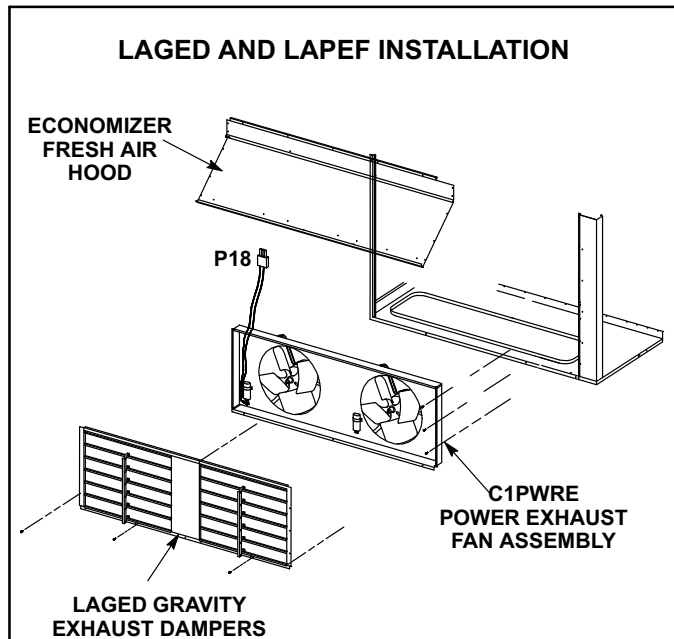

FIGURE 31
LAGED18/24 dampers (figure 31) available for TGA180/300 units, are used in downflow and LAGED(H)18/24 are used in horizontal air discharge applications. LAGED(H) gravity exhaust dampers are installed in the return air plenum. The dampers must be used any time an economizer or power exhaust fans are applied to TGA series units.
C1PWRE20C available for TGA180/300 units are power exhaust fans used in downflow applications only. The fans require optional down-flow gravity exhaust dampers and T1ECON economizers. Power exhaust fans provide exhaust air pressure relief and also run when return air dampers are closed and supply air blowers are operating. Figure 31 shows the location of the C1PWRE. See installation instructions for more detail.